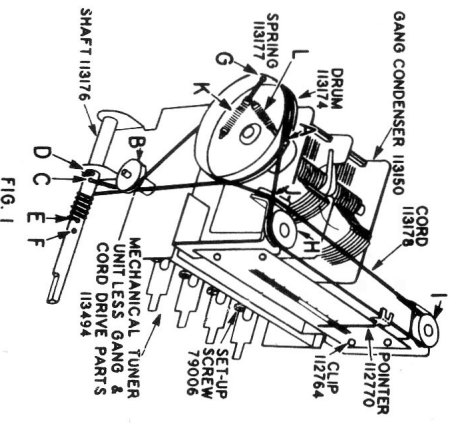

FIG. 1
1. Close the gang condenser. The set screw in the drum, Fig. 1, must be on the top side.
2. Take 18 inches of cord, double it in the middle and stick the loop end through eyelet A, Fig. 1, on the drum. Tie the tension spring L to this loop end, inside of the drum.
8. Place a small weight on the end of the cord and squeeze as in Fig. 1. Then tie a large knot in the cord up close to the shaft so the cord cannot slip back through the hole.